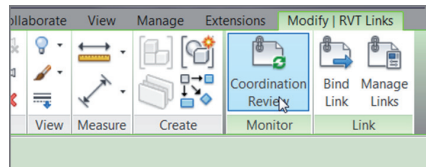

FIGURE BC6.14: Click the Coordination Review button.
21. To check whether there are any more issues, select the structural link, and click the Coordination Review button on the Modify | RVT Links tab, as shown in Figure BC6.14.